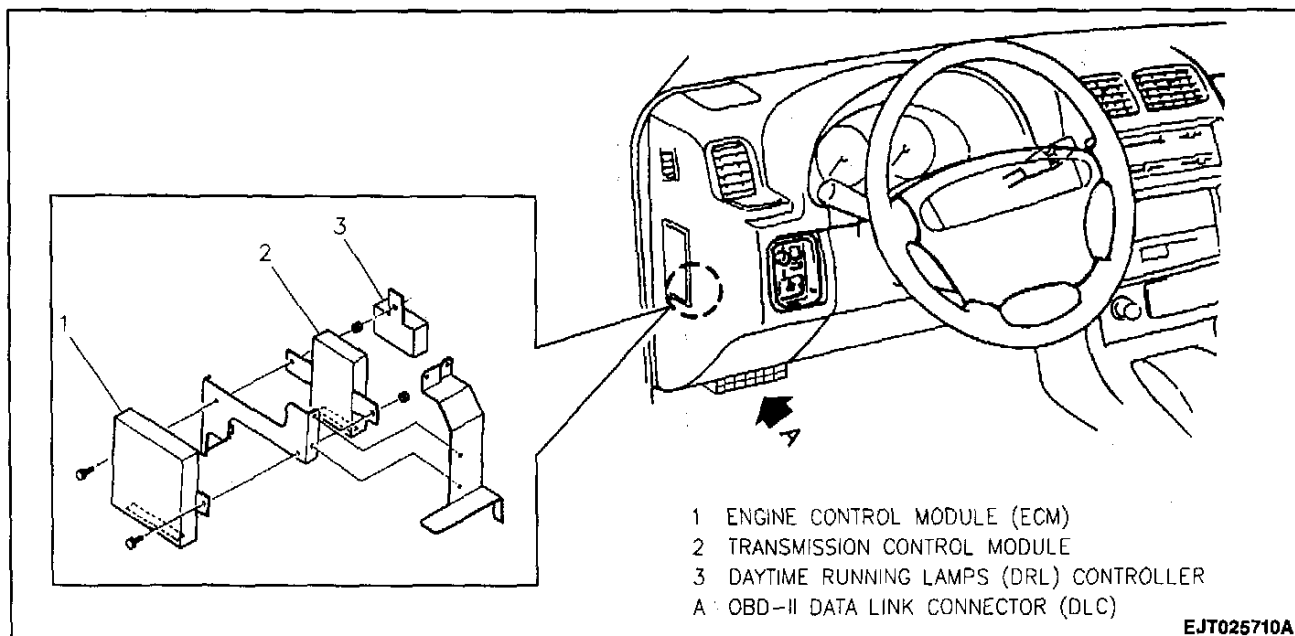

Figure 28—Transmission Control Module (03-72LE, 4-Speed)
1. TCM to bracket with two bolts (Figure 28).
2. TCM electrical connector (Figure 28).